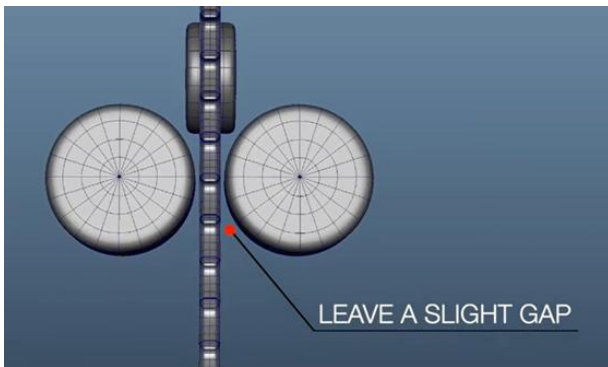

Fig. 53
8. Adjust the side adjustment knobs to where both bearings are 0,79 mm (about the thickness of a piece of paper) gap away from the blade. (clockwise=towards blade; counterclockwise=away from blade) (Fig.53)